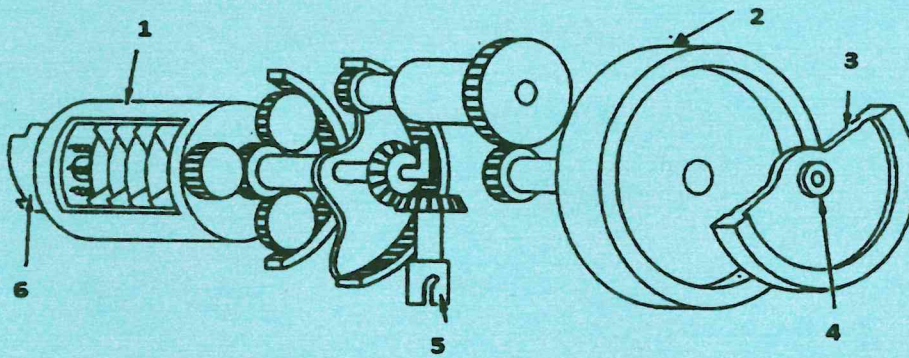

Fig. 1
- (b) **Figure 1** represents a combined hand and electric starter for a small aeropiston engine.